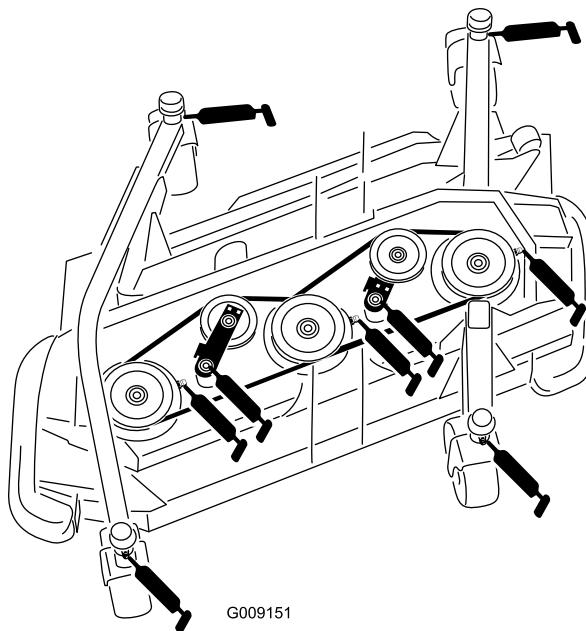

Figure 74
- 4 caster-fork-shaft bushing (Figure 74)
- 3 spindle-shaft bearings (located on the spindle housing) as shown in Figure 74
- 2 idler-arm-pivot bushings (located on the idler-pivot shaft) as shown in Figure 74